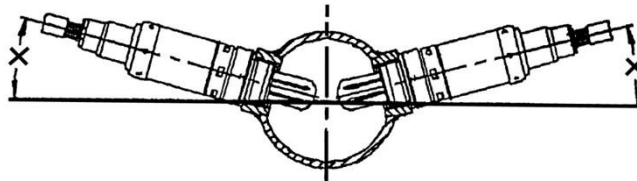

Figure 6
**NOTE:** The oxygen sensor should be mounted in such a way that the condensation in the exhaust tubing will not enter the sensor. Mount the O2 sensor in the upper half of the exhaust tubing, with the angle "x", shown above, being greater than 10°. **Figure 6** indicates that the sensor can be mounted on either side of the exhaust tubing.